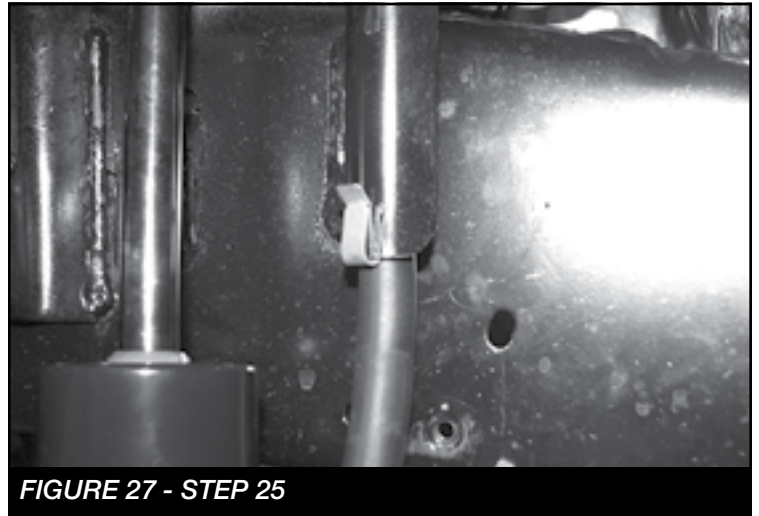
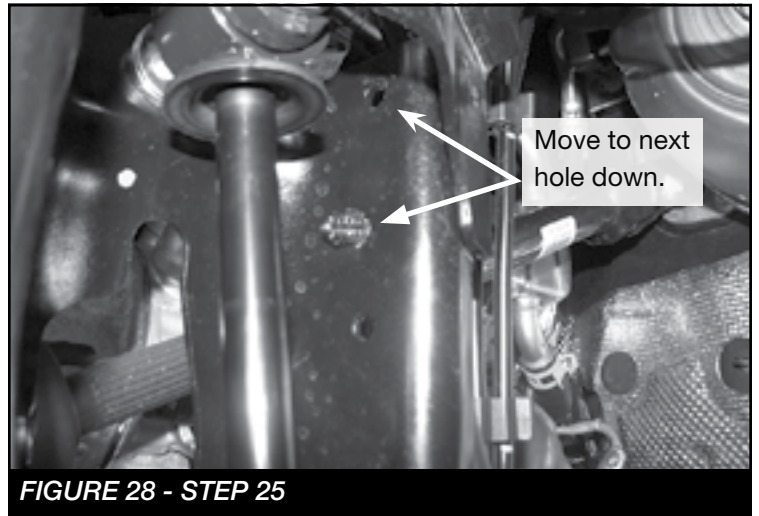

FIGURE 27 - STEP 25
FIGURE 28 - STEP 25
25. Reinstall the diff breather hose by moving the metal clip up the hose 2" **SEE FIGURE 27** and the christmas tree fastener into the next hole down. **SEE FIGURE 28.**